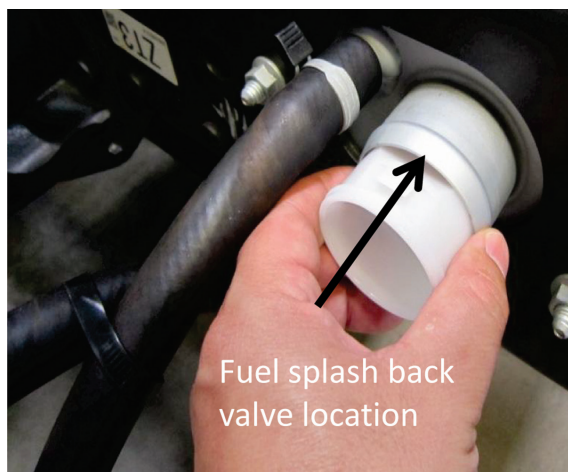
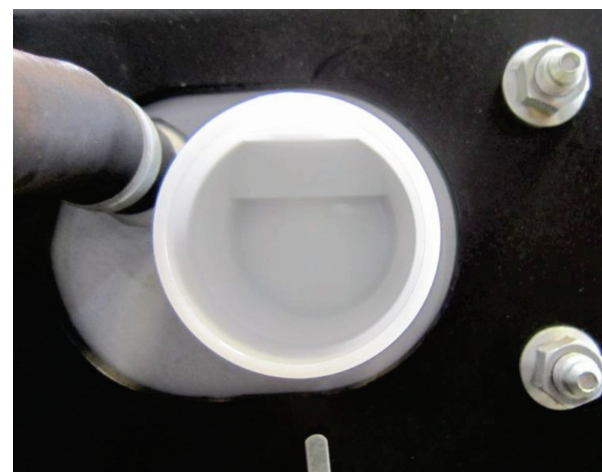

Figure 15.33.1
Figure 15.33.2
The fuel tank shutter valve (13) was a new component for 2011 model year. This component is meant to improve fuel splash-back performance of the fuel system. In the 2012 model year a running change was made and this valve (13) was relocated from the fuel tank inlet to the inlet (outboard side) of the fuel filler neck bulkhead assemble that is bolted to the left hand frame rail as shown in **Figure 15.33.1**. This plastic valve snaps into place in the inlet of the frame mounted fuel pipe. The valve should be installed so that the plastic clip is at the top of the valve, so that the flap door opens up, as shown in **Figure 15.33.2**.